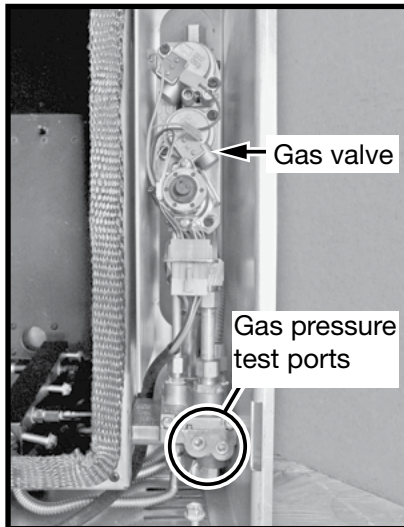

Figure 42: Gas valve location.
2. Locate the inlet and outlet test points on the valve which can be seen in (Figure 42). After locating test ports loosen the cap ends within the ports using a 3/16" Allan key.